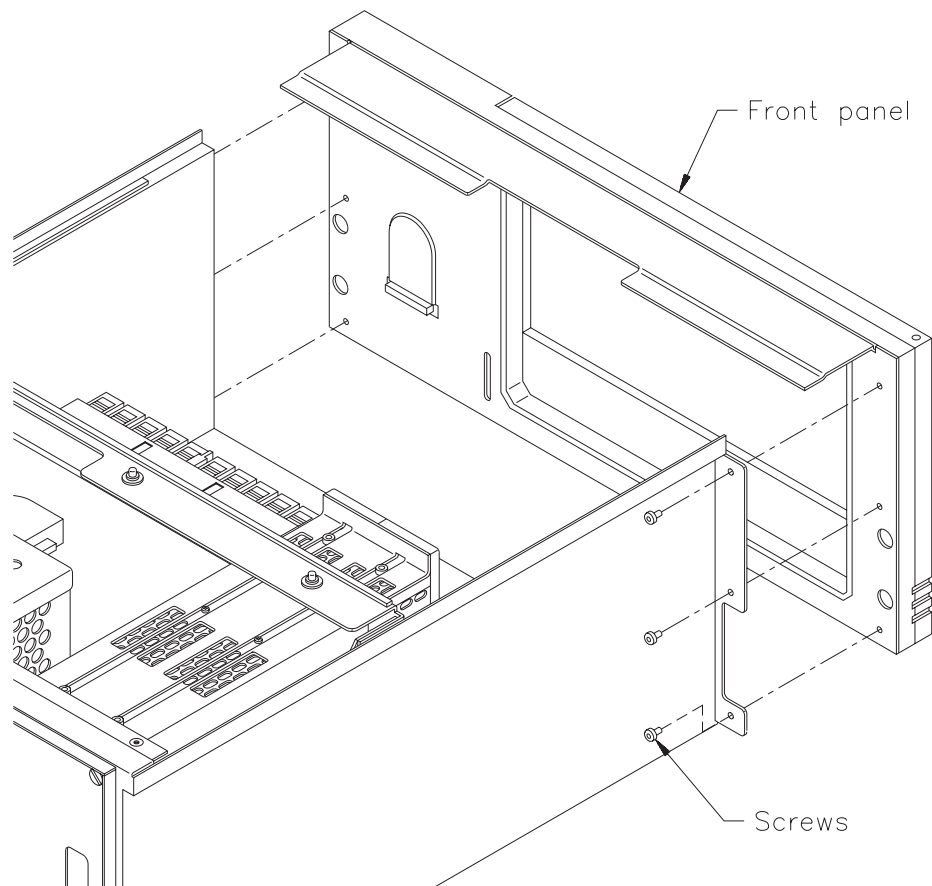

Figure 11 Installing the rack-mount front panel
1. Using the screw holes for guidance, position the front panel on the front of the library (see Figure 11).
2. Using a T-10 TORX bit and six 6-32 \times 0.25 screws, secure the front panel to the chassis, as shown in Figure 11. Tighten the screws to 8.0 inch-pounds (9.2 kg-cm) of torque.